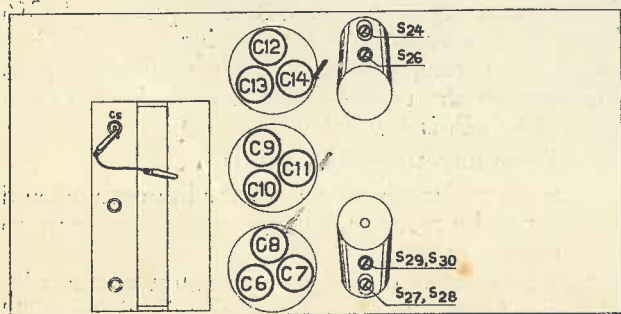

Fig. 3
5. Detune the third I.F. circuit by connecting 80 μF in parallel with S27 + S28 (fig. 1) and trim S29, S30 in the fourth I.F. circuit (fig. 3).
6. Detune fourth I.F. circuit with 80 μF in parallel with S30 (Fig. 1); trim S27, S28 in the third I.F. circuit (Fig. 3).
7. Detune first I.F. circuit with 80 μF across S24 (Fig. 1); trim S26 for the second I.F. section (Fig. 3).
8. Short-circuit oscillator by means of a piece of wire across C5 (Fig. 3).